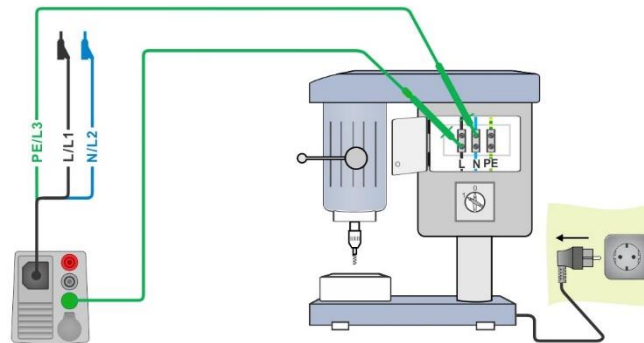

Figure 7.126: Discharging time measurement
- ▶ Connect 3-wire test lead to the instrument and on the DUT, see *Figure 7.126*.
- ▶ Connect DUT to the mains supply and Switch it ON, see *Figure 7.126*.